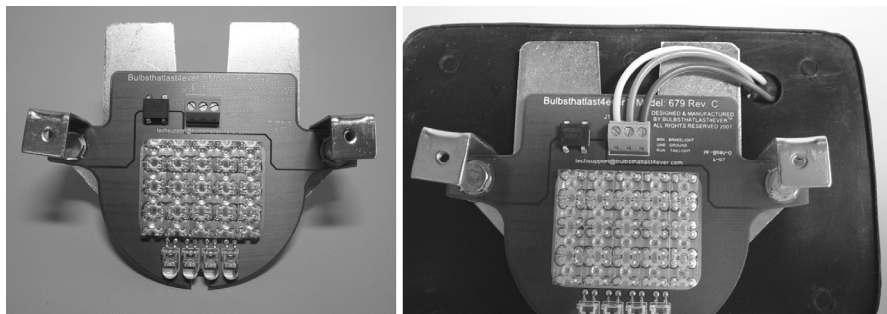

Figure 6
6. Install the converted reflector plate shown in Figure 6 (left) into the rubber-backing pad. Then feed the preassembled wires into the back of the rubber backing plate from behind. Continue to feed all the wires through so that they can reach the LED Board’s terminal block. Insert the White wire into the left slot, the Green wire into the center slot, and the Brown wire into the right slot as shown in Figure 6 (left). Then tighten the terminal block screws using a flat-blade jeweler’s screwdriver.